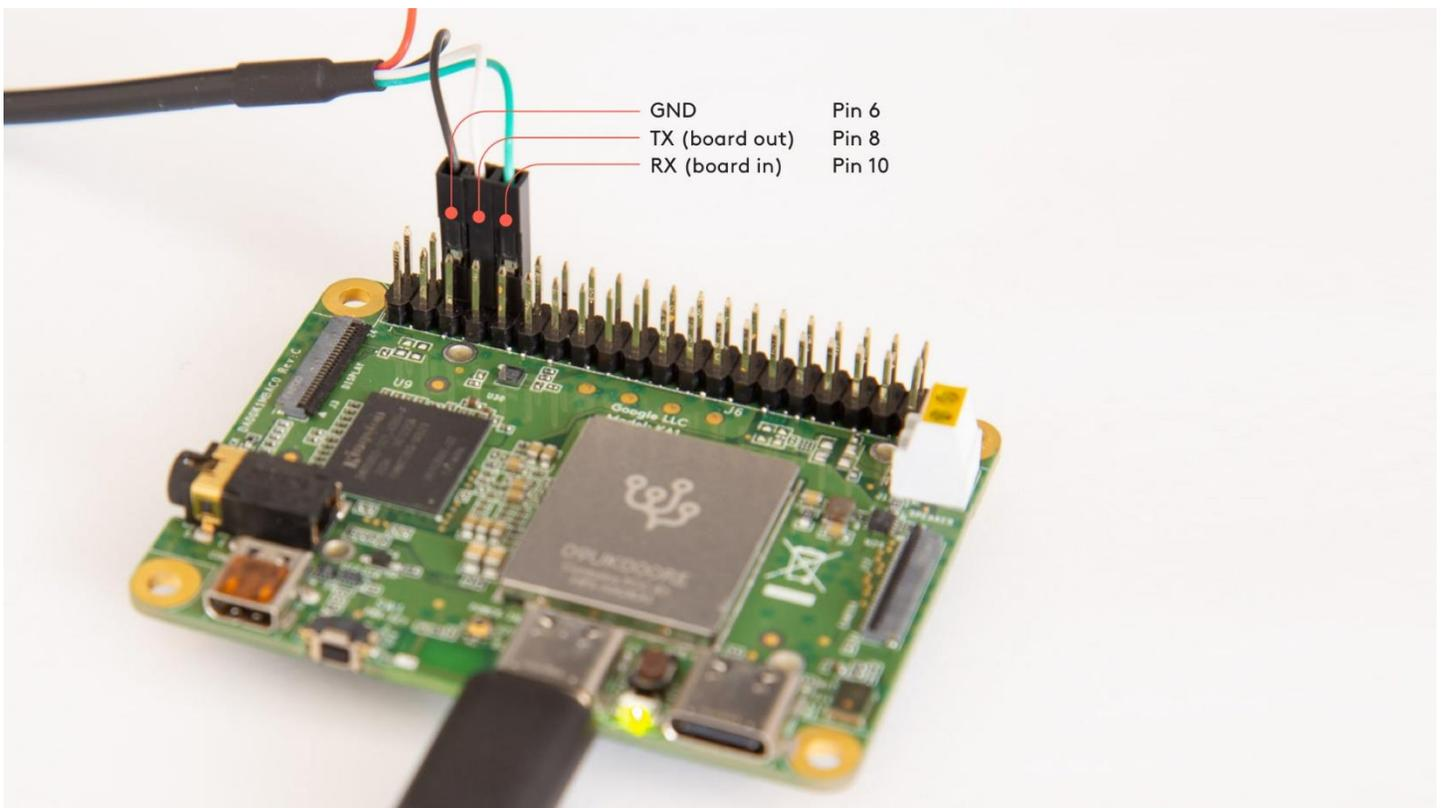

Figure 1. The ground and UART pins connected to 40-pin header
2. Connect the USB-to-TTL serial cable to your computer and the board, as shown in figure 1:
1. Connect the USB-to-TTL serial cable to your computer and the board, as shown in figure 1: